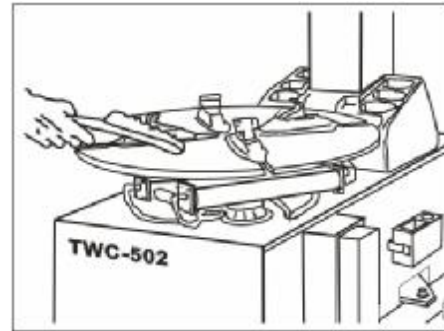

Fig.37
- l Weekly clean the turntable, jaws, guideways (Fig. 37).